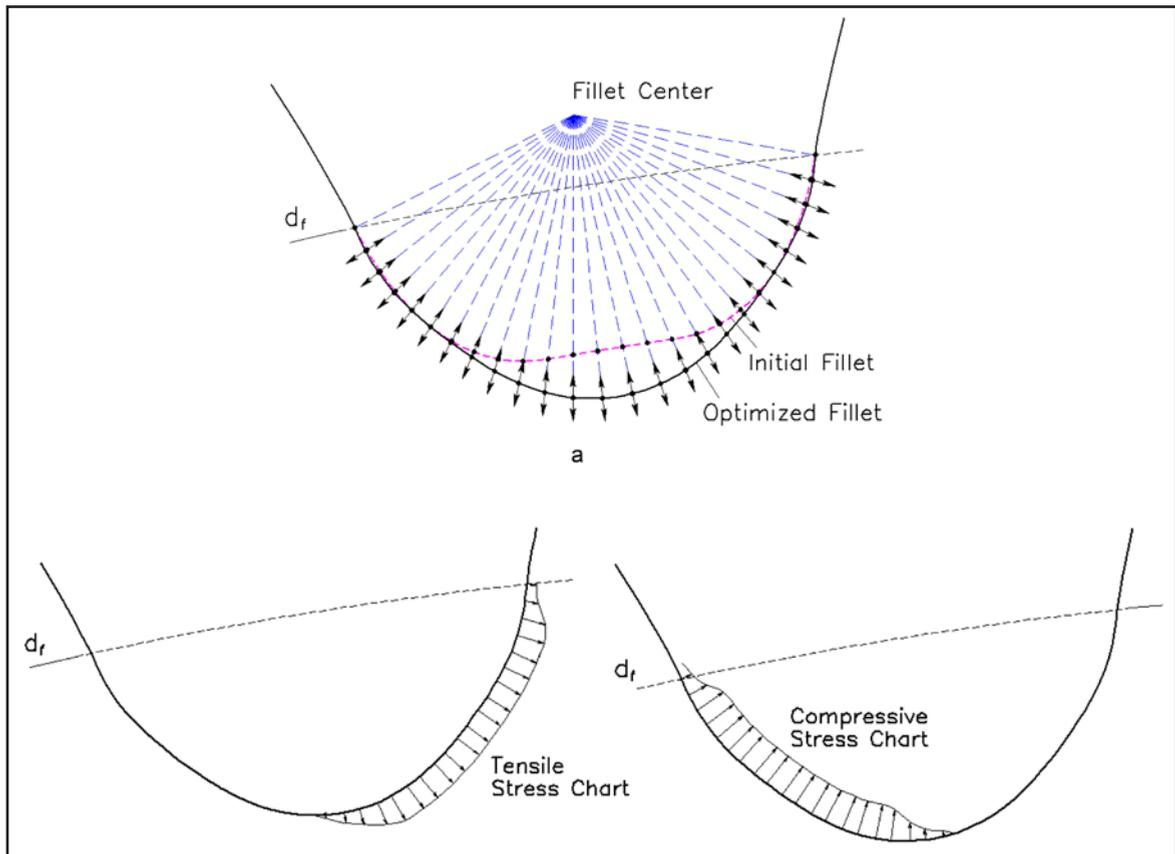

Figure 7 Root fillet profile optimization (a), tensile (b) and compressive (b) stress charts.
**Tooth root optimization.** The tooth root fillet is designed after completing the definition of the involute flank parameters. The optimized root fillet profile provides an even distribution for the maximum bending stress along a large portion of the fillet and minimizes bending stress concentration. The initial fillet profile traces the trajectory of the mating gear tooth tip in a zero-backlash mesh (Fig. 7). This prevents interference with the mating gear tooth tip.